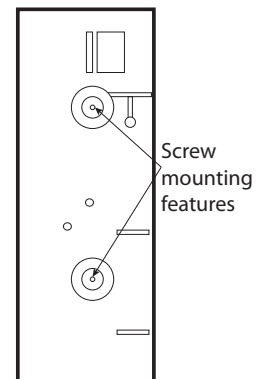

Figure 2
- 1 Place the base of the sensor in the desired location and secure with included screws (see Figure 2).
- 2 Drill hole through access hole, if needed (see Figure 2).
WARNING! The polarity of the battery must be observed, as shown (see Figure 2). Improper handling of lithium batteries may result in heat generation, explosion or fire, which may lead to personal injuries. Replace only with the same or equivalent type of battery as recommended by the manufacturer (see Specifications).